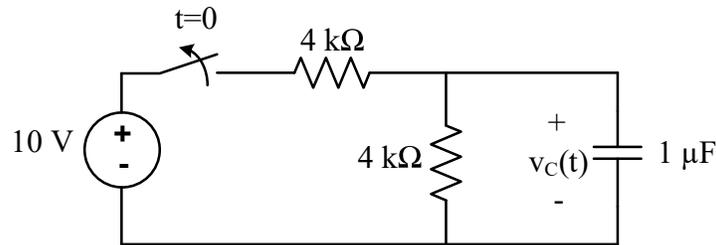

Figure 1: RC Circuit
- Implement the circuit as shown in Figure 1. The parts list is shown in Table 1.